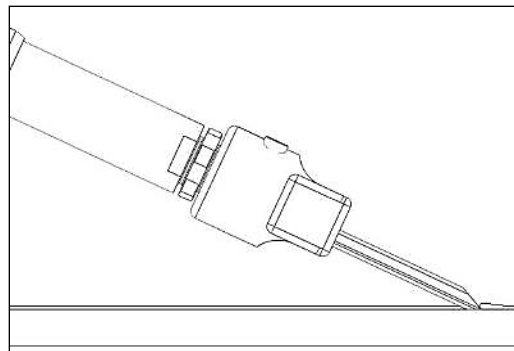

Figure 8. Correct TSB Alignment
- 3.2.3. With the cutting edge of the TSB engaged in the coating, tape or boot material, pivot the pneumatic tool so the foot of the TSB near the cutting edge is parallel and in contact with the structure surface (25 degree blade angle). Maintain contact pressure on the TSB foot as opposed to its cutting edge so the cutting edge is engaged only in the material being removed. This will reduce wear of the cutting edge. See **Figure 8**.